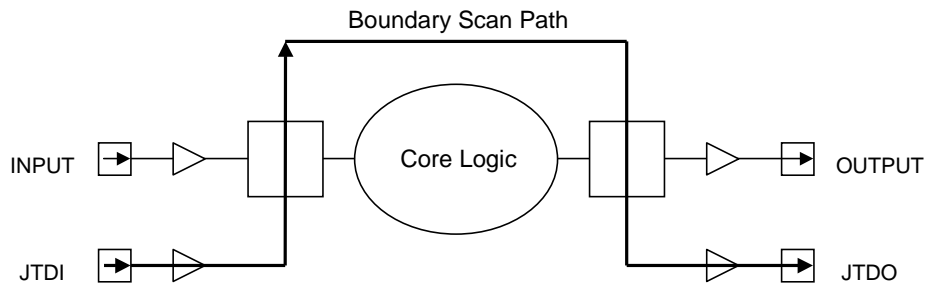

Figure 7.4.3 Test Data Flow While PRELOAD is Selected
- PRELOAD allows the boundary scan register to be initialized before another instruction is selected. For example, prior to selection of the EXTEST instruction, initialization data is shifted into the boundary scan register using PRELOAD as described in the previous subsection. PRELOAD permits shifting of the boundary scan register without interfering with the normal operation of the system logic. The flow of data for the PRELOAD phase of the SAMPLE/PRELOAD instruction is shown in Figure 7.4.3.